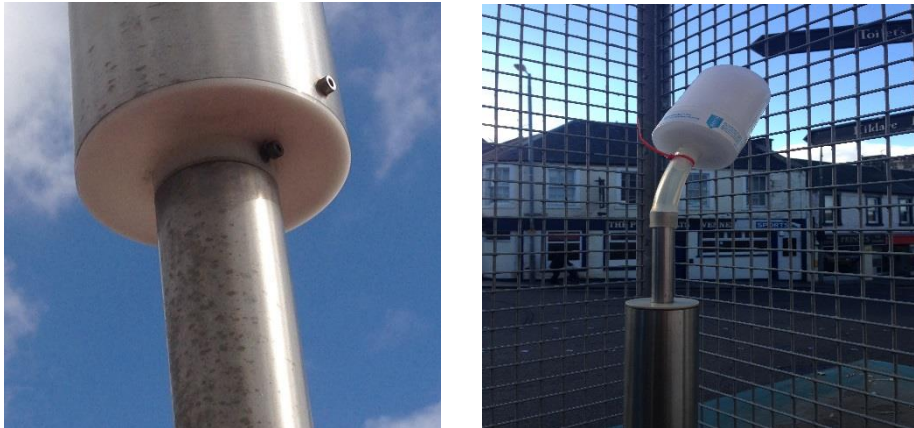

Figure 24 - Fidas head (left): Fidas head with HEPA Filter attached (right)
2. Connect the HEPA filter to inlet as in Figure 24, making sure it is a tight fit around inlet.